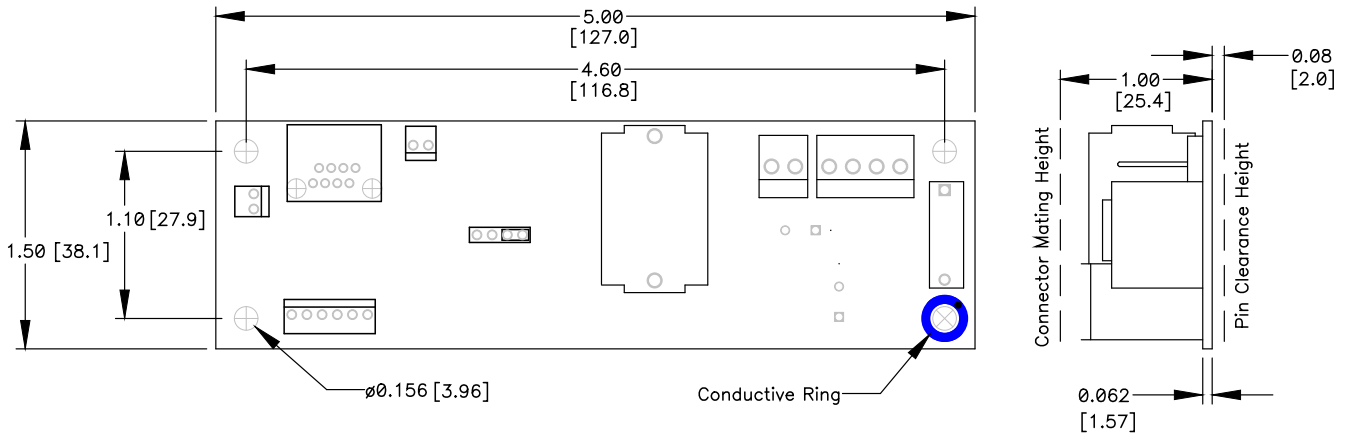

Fig. 2: Multi-SD Dimensions
- Dimensions 5.0”(127) x 1.5”(38.1) x 1.0”(25.4) L x W x H (See Fig. 2)
Using PCB support hardware in hardware pack H118-F, or equivalent, mount the unit on a flat surface using the four .156" (4.0mm) mounting holes. To minimize EMI, securely mount the unit on a grounded surface using a metal spacer and hardware at the conductive ring mounting (ref. fig. 2) **Note:** To meet UL safety recommendations without using an insulator, the unit must be mounted using spacers of a least 0.15" (3.8mm) from a conductive surface.